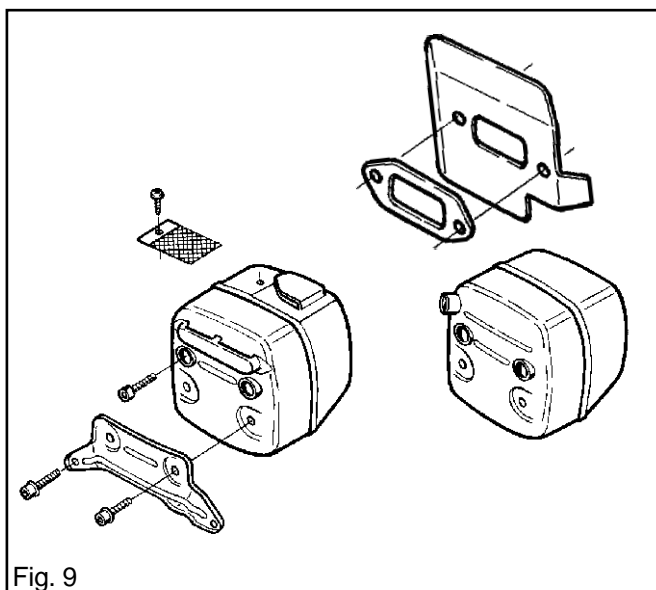

Fig. 9
1. Remove the two M5-bolts and the two M6-bolts and lift off the silencer and silencer mount. See fig. 9.
2. Remove the gasket and cooling plate. See fig. 9.
3. If the saw is equipped with a spark guard, this should be removed. See fig. 9.
2. If the chainsaw is equipped with a spark guard, refit it. See fig. 9.